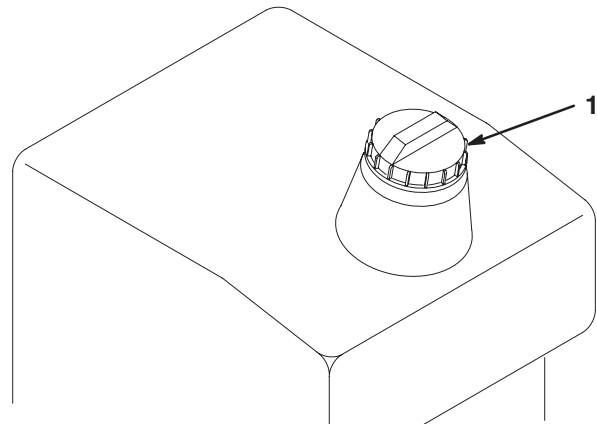

Figure 5
1. Clean the area around the fuel tank cap (Fig. 5).